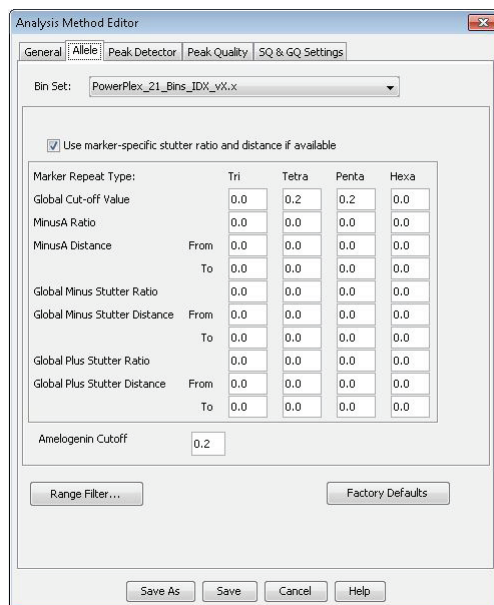

Figure 25. The GeneMapper® ID-X 'Allele' tab with settings for using a 20% peak filter.
6. Select the 'Allele' tab (Figure 25).
8. Ensure that the "Use marker-specific stutter ratio and distance if available" box is checked. Doing this will assign locus-specific stutter files and distances from the imported stutter file. Ensure that the appropriate global filter is applied to this analysis method. For example, for a 20% filter, enter "0.20" for the Global Cut-off Value for Tetra and Penta repeats (Figure 25).